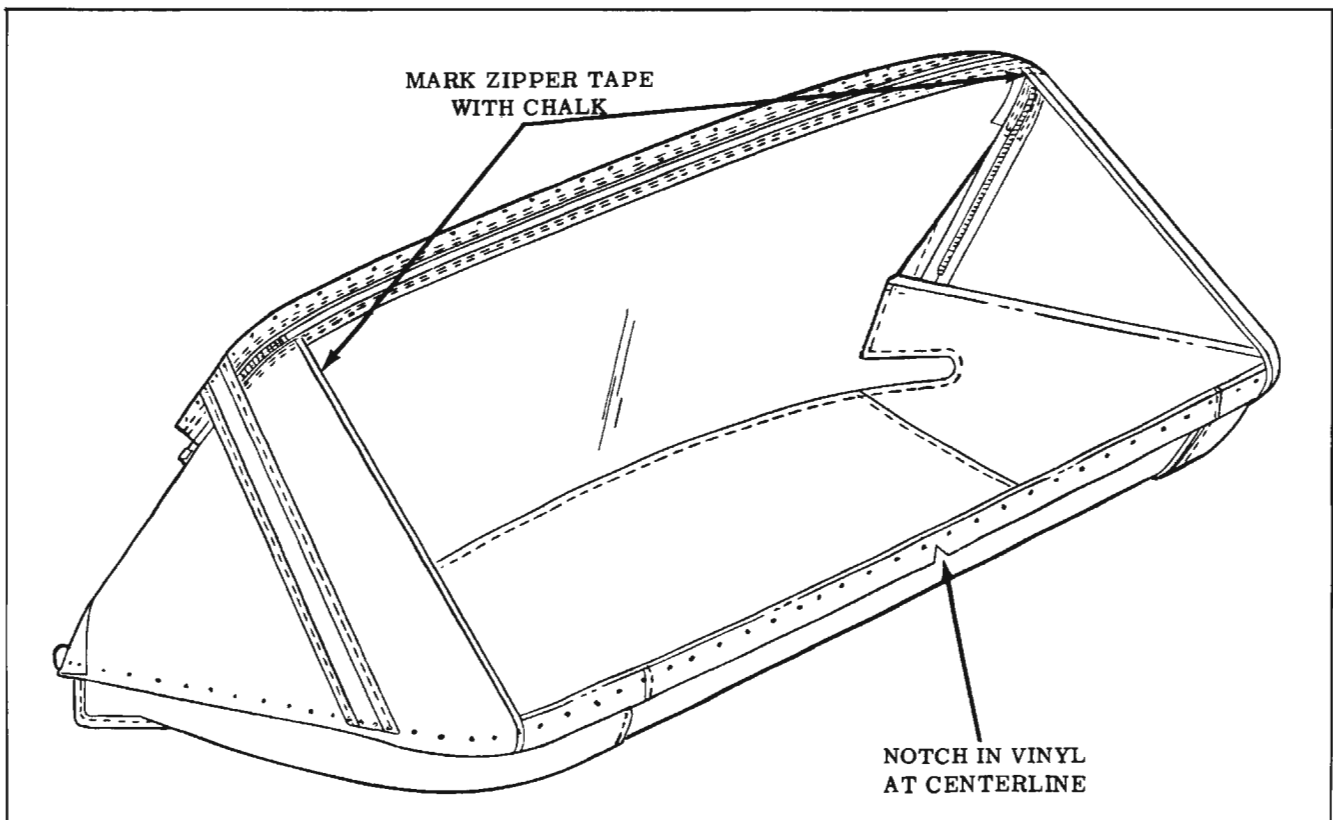

Fig. 16-137 Marking Zipper Tape
14. Using chalk, mark zipper tape at upper edge of vinyl. (Fig. 16-137)